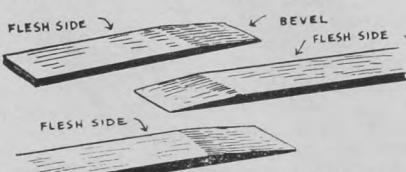
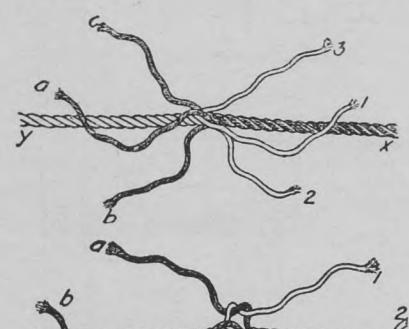
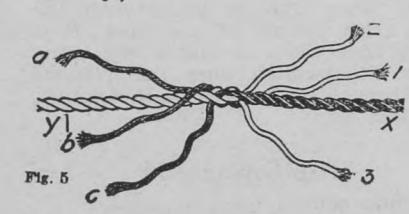

Fig. 3. Splicing a strap.
Fig. 4
Fig. 5
Fig. 3 shows how to cut the ends of a strap for splicing. First cut each end square. The hair, or smooth side is much stronger than the flesh side, therefore
Fig. 4 shows how the stitching is done, with the two ends of strap held in place by the clamp. After marking, with a spacer or a ruler, the holes are punched with the awl, puncturing from the smooth side toward the flesh side. The stitching is done by passing both needles through the holes from opposite sides and drawing each stitch very tightly. When the last stitch through both straps is made cross over as shown, whichever method is preferred, then reverse the splice in the clamp, with the smooth side still to the right, and stitch the other edge of the splice. To finish the stitching, place the left needle and thread through as usual; then place the right needle in the hole and wind the left thread twice around the right needle and draw both ends tight. The winding will lock the threads in the leather. Make another small hole one-eighth inch below the next to the
If there is a straight pull and the rope doesn't have to pass through a pulley, a short splice will do. The steps in making this splice are shown in (figs. 3, 4, 5 and 6). The two ends are unwound and then locked together so that those from one end pass alternately between those from the other end. Taking two strands from opposite sides, (a) and (1), (fig. 3) tie a simple knot (fig. 4). Repeat with (b) and (2) and with (c) and (3). Draw the knots tightly, then passing each strand of the rope diagonally to the left, tuck the ends under the strands of rope (y). Then turn the rope end for end and repeat by splicing down the strands of rope (y) (fig. 5). When the splice is completed each strand from both ropes should be spliced under at least two places, depending on the size of the rope and the strain it has to carry. The